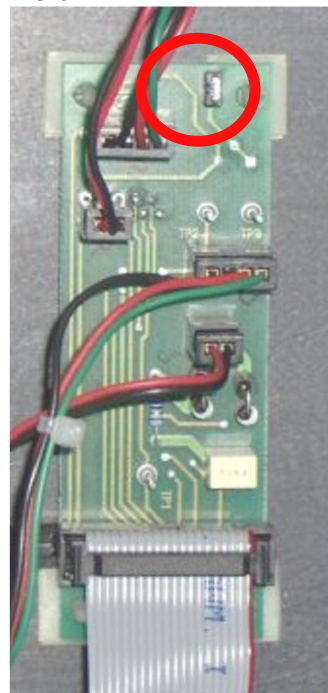

FIG 6.4
- Insert the jumper, see Fig 6.4.